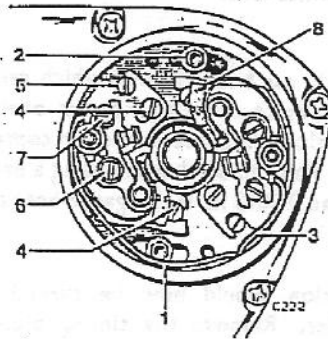

Fig. B22. Contact breaker 6CA
- (2) Repeat for the L.H. plug and adjust the timing by slackening off the clamping screw on the auxiliary backplate and turning the eccentric screw (see Fig. B22) until again the markings align. Timing is then correct. Refit the primary chaincase inspection plate.